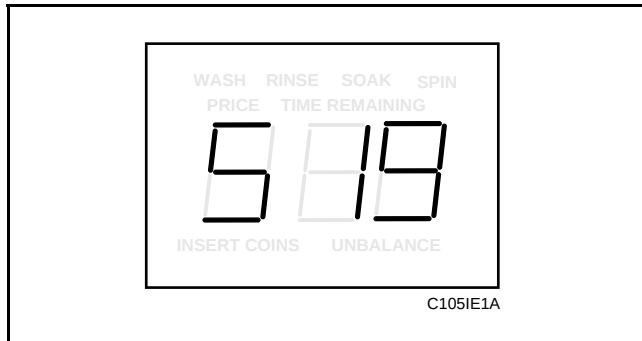

Figure 58
2. While pressing and holding the PERM PRESS keypad with one hand, press the COLD keypad with the other hand. Programmable option number one, “Slg”, will appear in the VFD. See **Figure 58**.